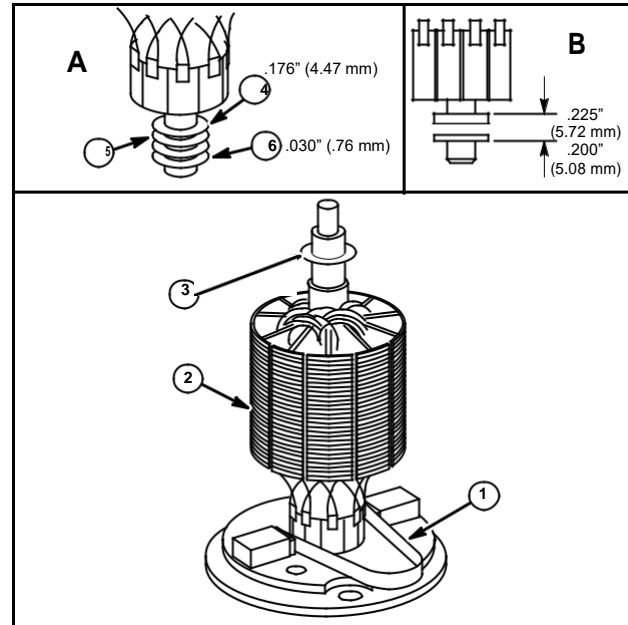

Fig. 37
Assemble Starter Motor – Armature to End Cap Assembly, Fig. 37
1. Insert brush springs and brushes in holders as far as possible, and hold them in position with brush retainers (1), Fig. 37.
2. Place thrust washers on armature shaft in sequence shown, Inset "A": felt washer (4), steel washer (6), and add gray plastic washers (5) to obtain dimension shown in Fig. 37, Inset "B" (System 3 , 4).
3. Using care to ensure brushes clear commutator, slide armature shaft into end cap bearing, Fig. 37.
9. If necessary, install or remove gray plastic washers between armature and end head to adjust end play for .005\" (.13 mm) to .025\" (.64 mm) armature movement (System 3 , 4), Fig. 37.